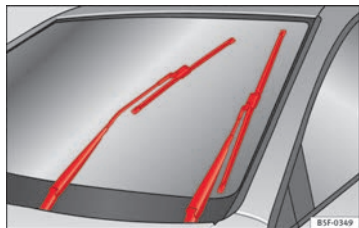

Fig. 141 Wipers in service position
- Turn the ignition on and off and then (within approximately 9 seconds), push the windscreen wiper lever down (short wipe). The windscreen wipers will move to the service position ⇒ Fig. 141.